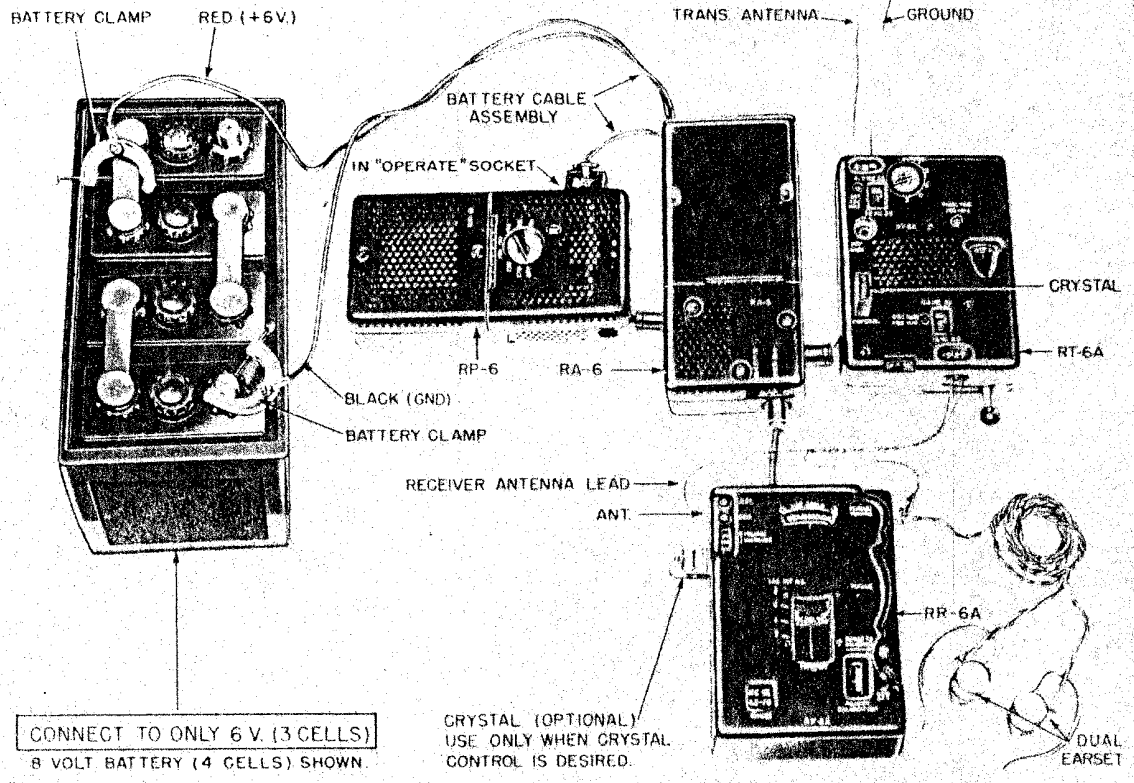

Figure 6. Radio Station RS-6A, battery operation hook up.
c. Connect equipment as shown in Figure 6 (receiver crystal shown is optional).
(1) Use only a 6-volt storage battery source. If only an 8- or 12-volt storage battery is available, connect across only 6 volts (3 cells) of the battery. See Figure 6.
(2) The Jones plug marked BAT must be inserted in the OPERATE receptacle on Power Supply RP-6 before the battery clamps are connected to the storage battery, otherwise "hot" terminals will be exposed and equipment may be damaged.